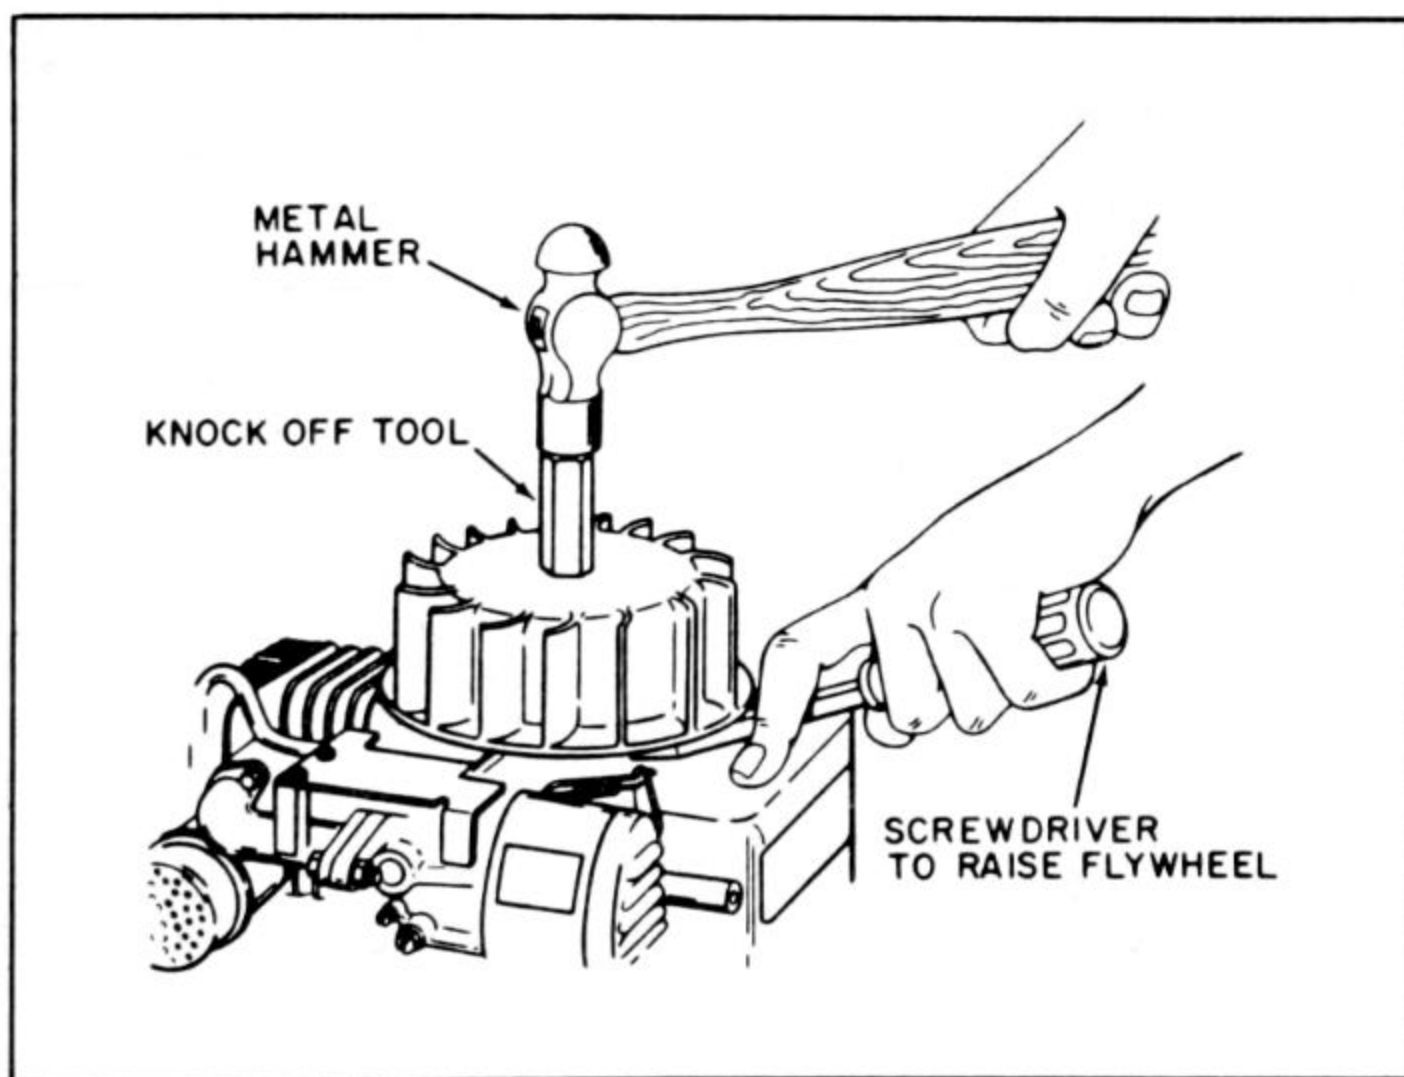

Fig. 2-16. If you use a knocker, be certain it matches properly with the crankshaft threads.
- Clinton and Tecumseh supply flywheel knockers (Tecumseh part Nos. 670103 for 7/16-inch crankshafts and 670189 for 1/2-inch shafts, both right-hand threaded). These tools dislodge the flywheel by impact and should be used with great care. A glancing blow can break or bend the crankshaft stub, and light, ineffectual blows can scramble flywheel magnets (Fig. 2-16).